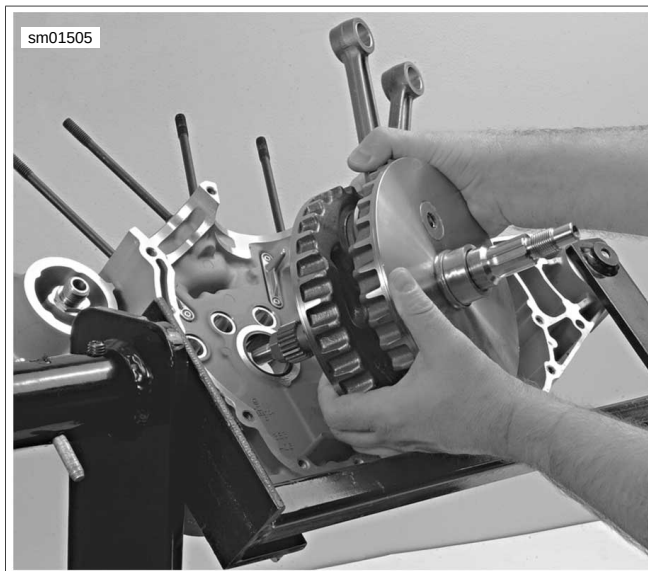

Figure 5-57. Removing Flywheel Assembly From Right Crankcase Half (typical, XL model shown)
15. See Figure 5-57. Remove flywheel assembly from right crankcase half.